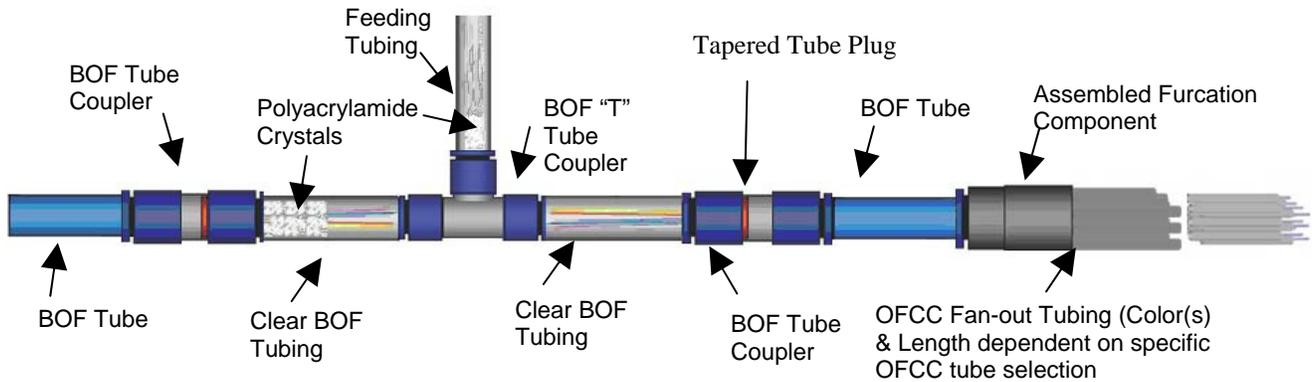

Figure 11
Step 5 – End seal any furcation cables that will not be terminated in accordance with Method 1E1 of MIL-STD-2042-2B (SH)
- a. Insert polyacrylamide crystals into spare tube and visually fill clear BOF tube around the fibers to mid point. (approx. 0.5 grams). (Figure 11)